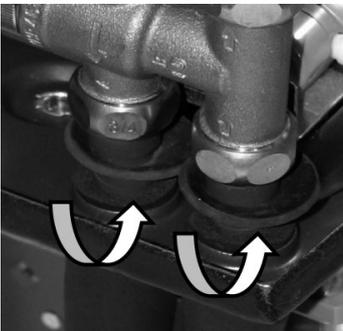

Fig. 42: Glue the insulation with rubber pipe cuffs
- Glue the drip ring with insulation and the stem of the condensate tray and press the rubber pipe cuffs onto the insulation (see Fig. 42).